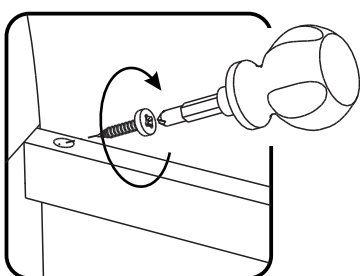

Figure 2
Attach Stretcher (D) and Side Frame (B) to unit with Flat Washers, Spring Washers, Bolts and Wood Screws. (See Figure 2)